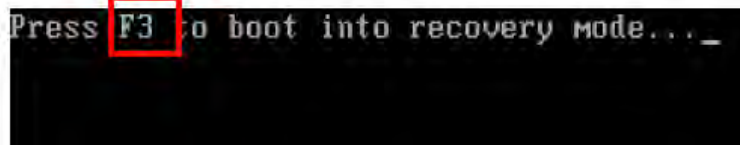

Figure B-10: Press F3 to Boot into Recovery Mode
Step 1: Turn on the system. When the following screen displays (**Figure B-10**), press the <F3> key to access the recovery tool. The message will display for 10 seconds, please press F3 before the system boots into the operating system.